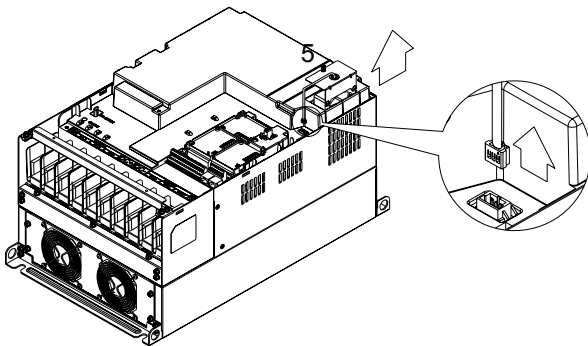

Figure 3
- (Figure 3) Loosen screw 5 and disconnect the fan power. Screw torque: 10~12kg-cm (8.6~10.4in-lbf).